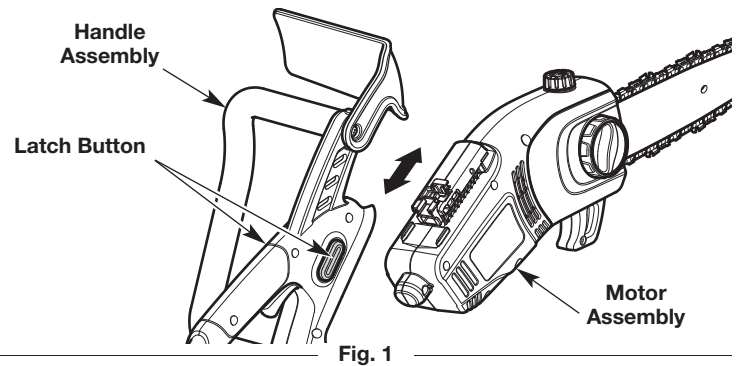

Fig. 1
2. **Disconnect the motor assembly from the handle assembly (Fig. 1):** Press and hold the latch buttons on both sides of the handle assembly. While continuing to press the latch buttons, slide the motor assembly out of the handle assembly.
4. **Connect the motor assembly to the handle assembly (Fig. 1):** Press and hold the latch buttons on both sides of the handle assembly. While continuing to press the latch buttons, slide the motor assembly into the handle assembly. Release the latch buttons and gently pull the assemblies to make sure they are completely connected.